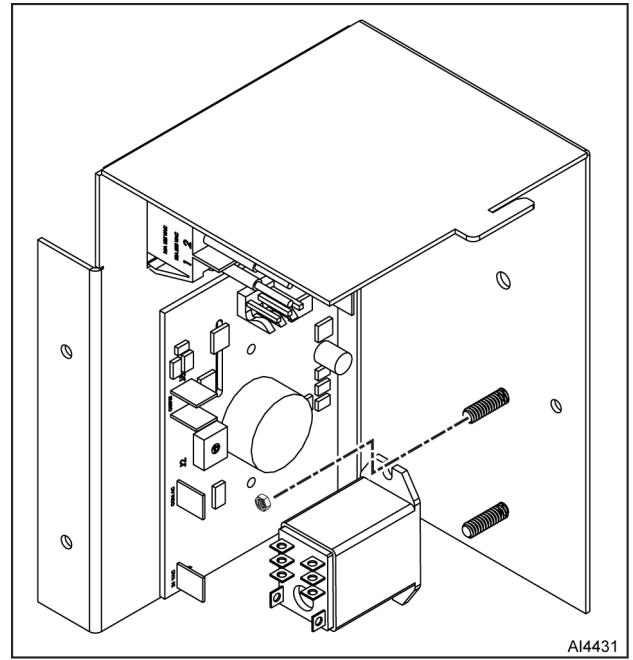

Fig. 8
3. Remove nuts and relay (Fig. 8).